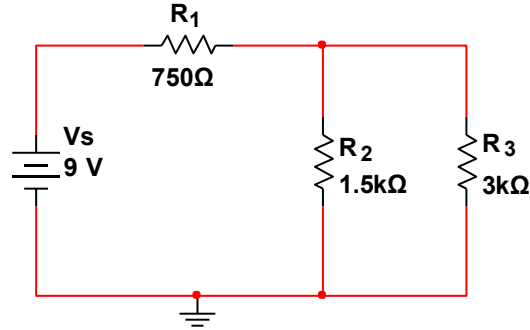

Figure P.3 – DC Series-Parallel Combination Circuit
Many circuits have a combination of series and parallel resistors. **Figure P.3** shows a DC circuit that has two resistors R_2 and R_3 connected in parallel with one another. R_2 and R_3 together are connected in series with resistor R_1 and the DC Voltage Source.
1. **Analyze** the circuit in **Figure P.3**.
4. **Redraw** the circuit in **Figure P.3** showing how you would attach the DMM to measure the current through R_2 .